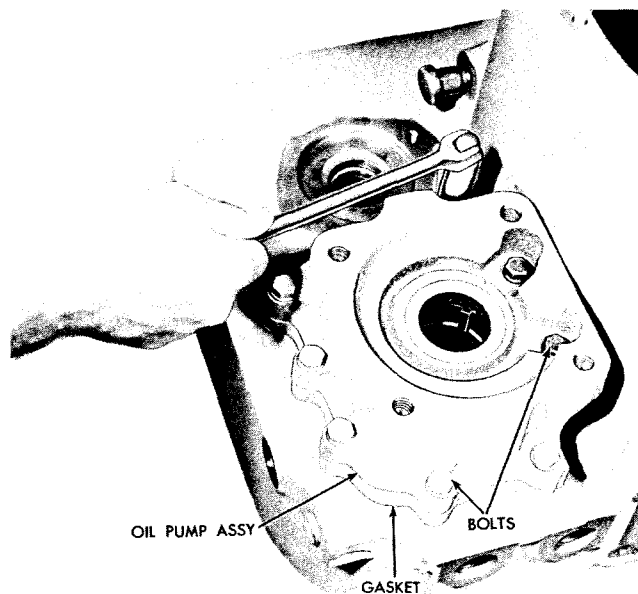

Fig. 5-29. Removing oil pump assembly
(1) Remove two long bolts, seven short bolts and lockwashers that attach the oil pump assembly to the transmission housing (fig. 5-29).